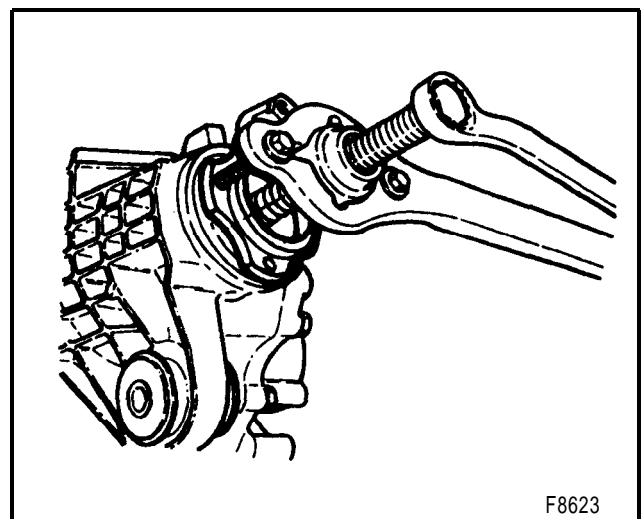

Figure 11 - Removing the Pinion Flange
4. Pinion flange (44) using J 8614-01 (figure 11).
4. Pinion flange (44) (figure 11).
5. Pinion oil seal (42) by driving it out of the carrier with a blunt chisel.